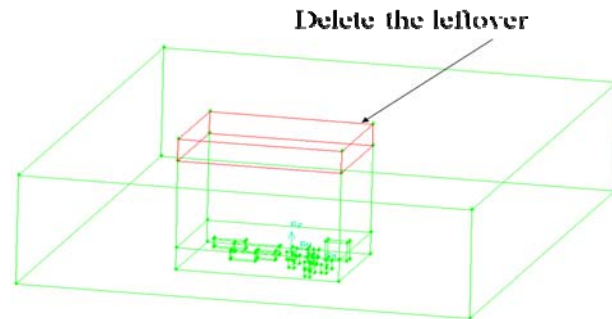

Fig. 25 The brick 'helpvol1' marked in red.
- ⑤ Select volume (real) to split with and pick the volume 'helpvol1'.
- ⑥ Apply.
(3) Delete the volume leftover (marked in red in Fig. 25).